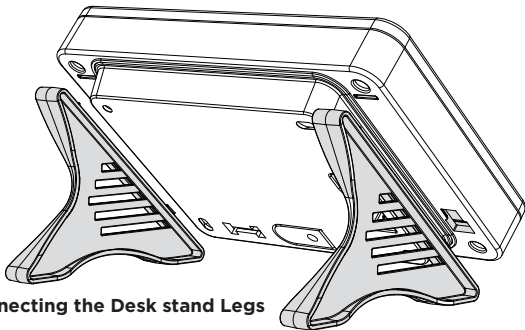

Figure 6: Connecting the Desk stand Legs
2. Slide the leg upwards until the leg firmly snaps into place. Repeat steps 1 and 2 to install the other leg. See Figure 6.